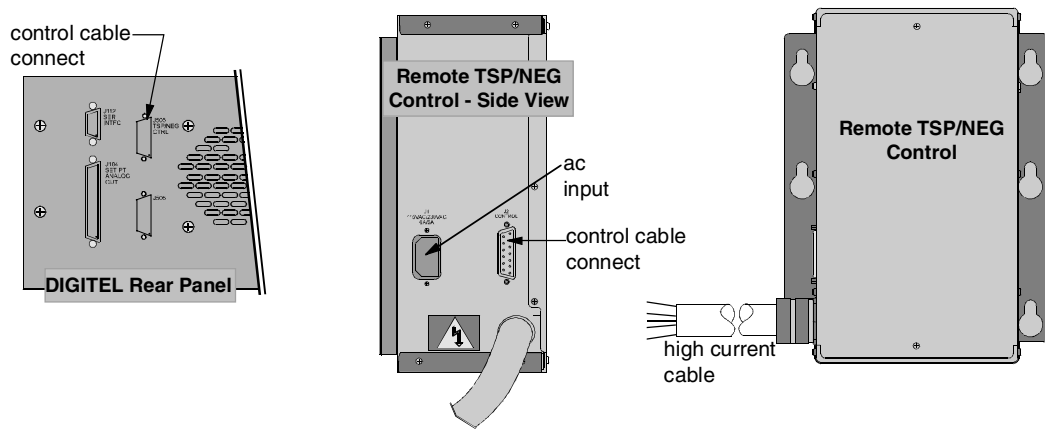

Figure 2-3. Installation Diagram of Remote TSP/NEG Control.
To install the Remote TSP/NEG Control, use the following procedure. Figure 2-3 provides an installation diagram.
1. Mount the Remote TSP/NEG Control unit using the holes provided on the mounting bracket (see Figure 2-3).